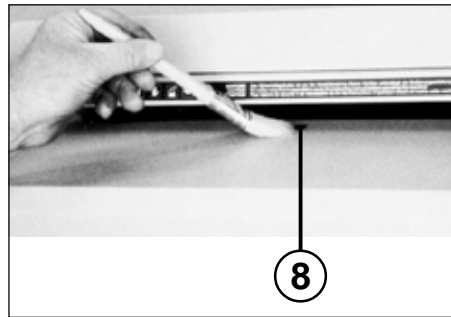

fig. 4
- 8 = Light barrier (forward operation) (fig. 4)**
CLEANING THE PHOTOCELLS (8) (Fig. 4):